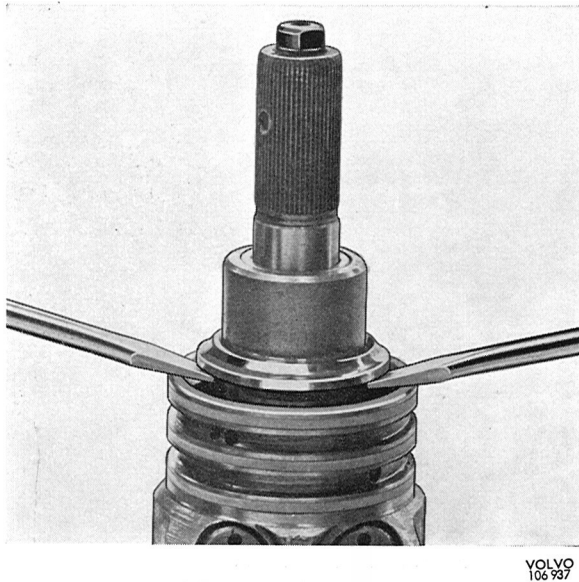

Fig. 6-81. Removing bearing sleeve
8. Clamp the worm between, for example, copper jaws in a vise. Remove the inner bearing sleeve (60) and the bearing (61), see Fig. 6-81. Remove all rings (62—67) from the worm.